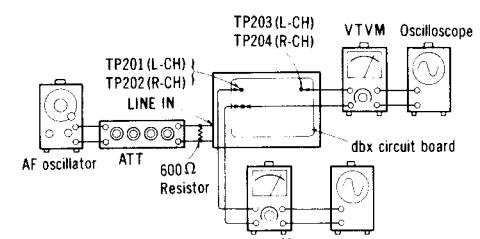

Fig. 15
4 Operation check of VCA circuit and Pre-emphasis/De-emphasis circuit	<p>Condition: * Stop/record mode * Input level controls ... MAX * Noise reduction selector ... disc/dbx tape</p> <p>Equipment: * VTVM * AF oscillator * ATT * Oscilloscope * Resistor (600Ω)</p> <p>4-1 Operation check of VCA circuit and Pre-emphasis circuit</p> <ol style="list-style-type: none"> Make the connections as shown in fig. 15, and apply 100Hz — 27dB signal from LINE IN. Short pin ③ of IC201 (L-CH) and IC202 (R-CH) to TP207 (ground) as shown in fig. 16. Set the unit to record mode, and set the noise reduction selector to dbx tape position. Adjust ATT so that the signal level at TP201 (L-CH) and TP202 (R-CH) is 300mV. Make sure that the output signals at TP203 (L-CH) and TP204 (R-CH) are sinusoidal. (The operation of VCA can then be checked.) Shift the frequency of input signal to 5kHz, and make sure that the output signal levels at TP203 (L-CH) and TP204 (R-CH) are increased by about 12dB. (The operation of the Pre-emphasis circuit can then be checked.)